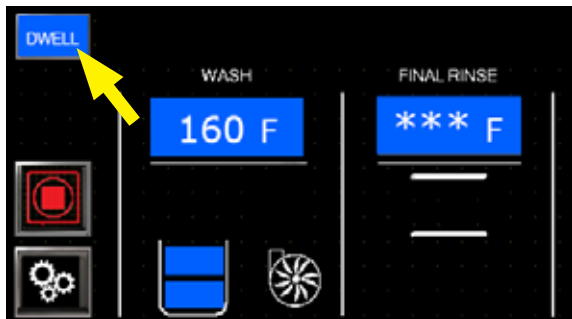
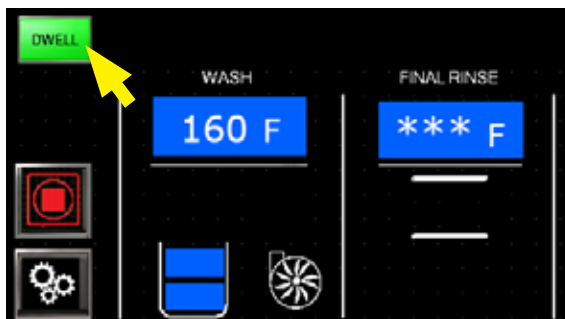

Fig. 20a
Fig. 20b
- 1 Heavily soiled wares may require more cleaning time in the wash zone. This is accomplished by pressing the DWELL button BEFORE inserting a rack. Press the gray DWELL button, Fig. 20a. The DWELL button turns green, Fig. 20b.